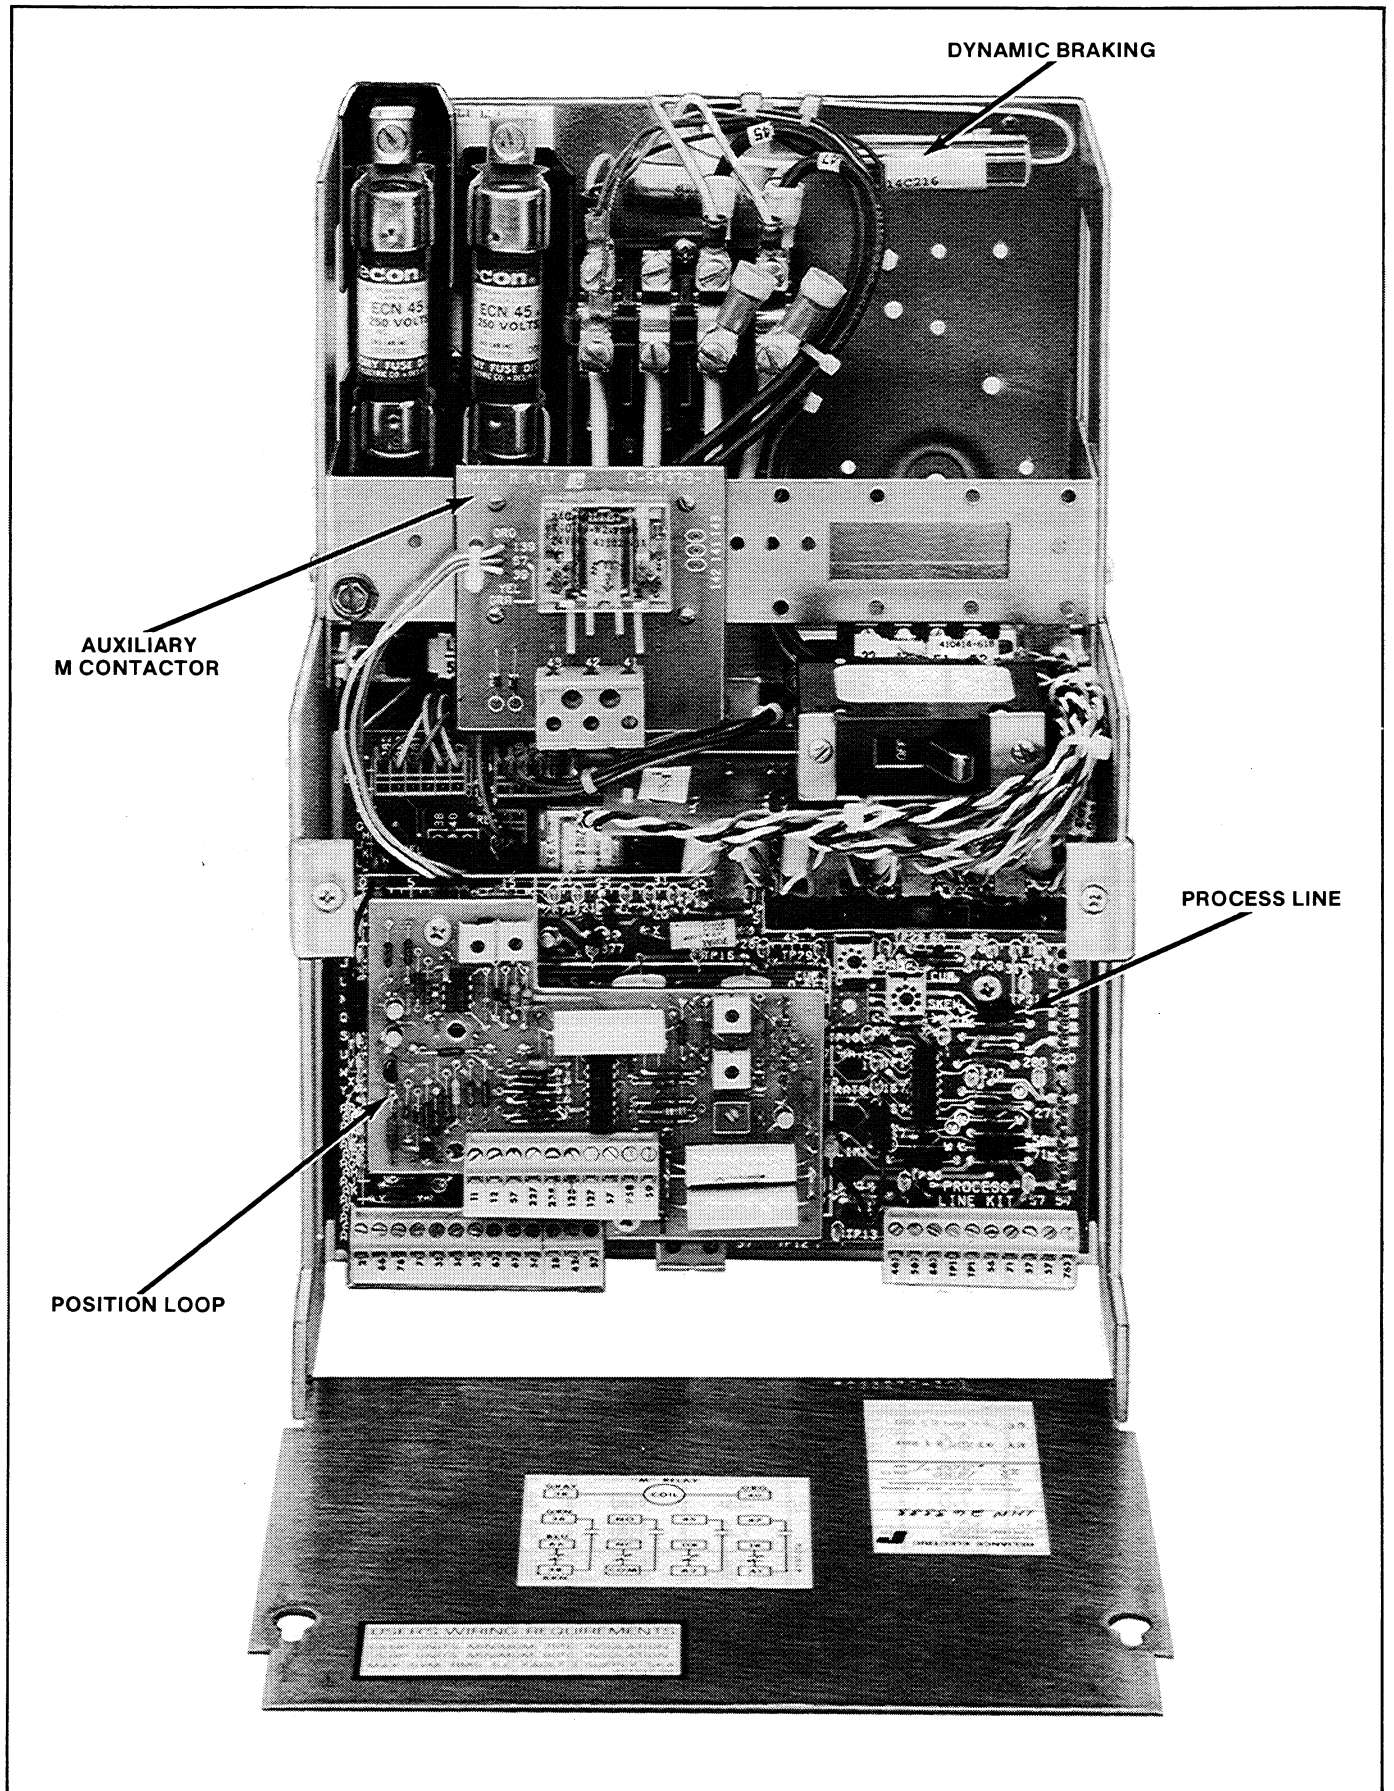

Figure 2.1. Modification Kit locations.
Optional Modification Kits conveniently expand the capability of the Regenerative FlexPak Plus (S2R) drive controller. Refer to Paragraph 2.3 and Figure 2.1.
2.3 Modification Kits — The basic capability of the controller can be quickly and conveniently extended with the use of a variety of optional Modification Kits. (Refer to Figure 2.1.) These Modification Kits are: